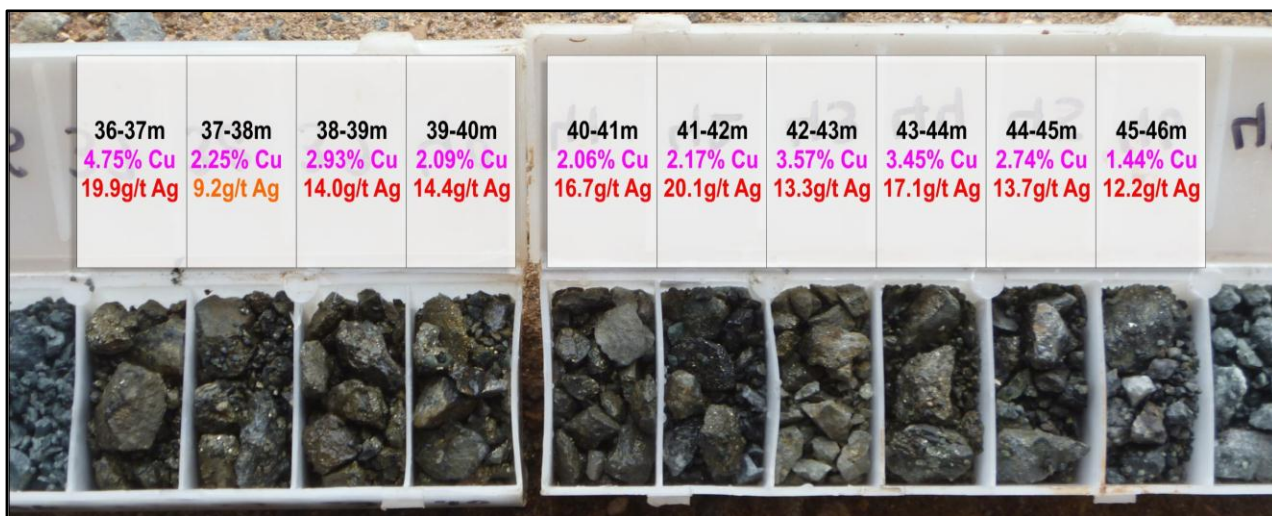

Figure 1: High grade massive pyrite-chalcopyrite zone in KRC19
To date Geopacific has drilled five (5) RC holes to a depth of 120 metres and undertaken trenching as a follow up to 6 shallow diamond holes drilled in 2011/12 by the previous operator. The RC drill holes have encountered a supergene Cu oxide blanket of approximately 30 metres depth, with one hole encountering a 10 metre zone of fresh sulphide material grading 2.75% Cu and 15.06g/t Ag. (Figure 1)